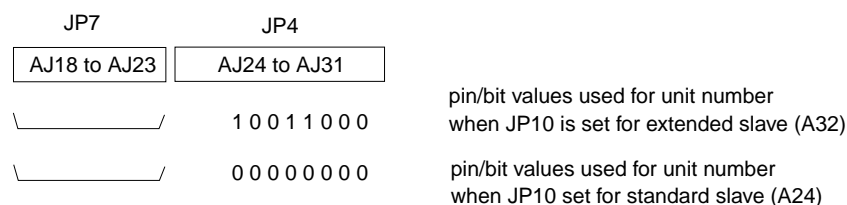
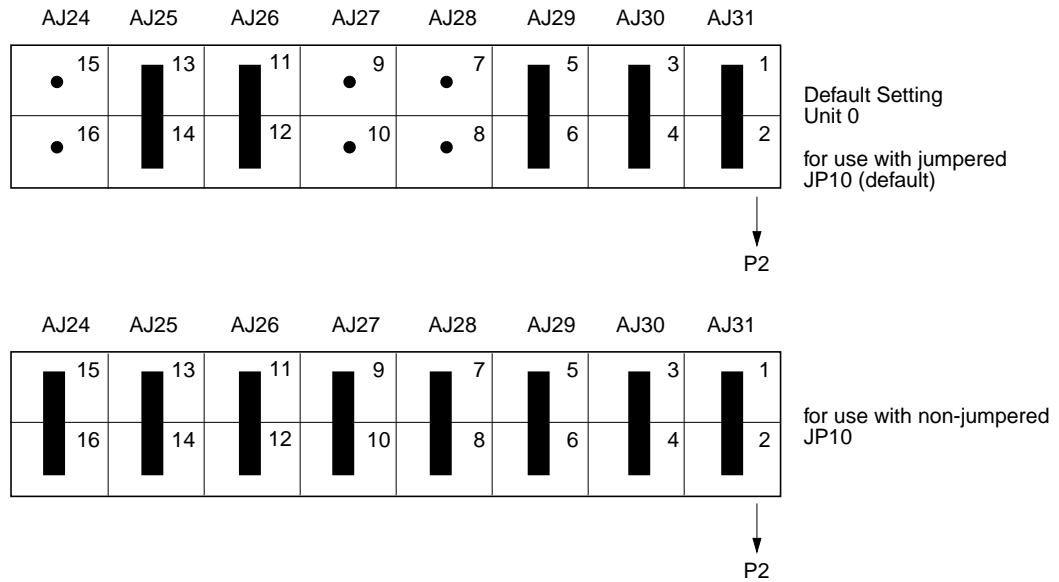
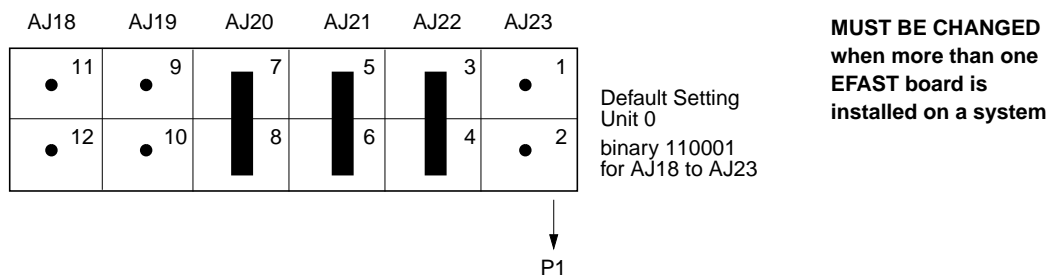

Figure 1-5 Use of JP4 and JP7 in Combination with JP10
Figure 1-6 JP4 on Mother Board: Unit Number for Standard Slave Operation
Figure 1-8 JP7 on Mother Board: Unit Number for Extended Slave Operation
- Figure 1-5** Use of JP4 and JP7 in Combination with JP101-6
- Figure 1-6** JP4 on Mother Board: Unit Number for Standard Slave Operation1-6
Jumper block JP4 (illustrated in Figure 1-6) sets a portion of the EFAST board's unit number. The "unit number" is the VMEbus slave response address. Jumper block JP4 sets bits AJ24 to AJ31 of the VMEbus slave response address; jumper block JP7 sets bits AJ18 to AJ23, as illustrated in Figure 1-5. During VMEbus cycles, jumper bits AJ18-AJ31 (on JP4) are compared with VMEbus address bits A18-A31 to determine if the cycle is within the slave response window. When a jumper is installed between two JP4 pins, the associated address bit is set to 0; when no jumper is installed, the bit is a 1. JP4 is also referred to as the XDEC jumper block.
Note: When JP10 is set for extended slave operation (the default),JP4 must be jumpered with the factory setting. When JP10 is altered for standard slave operation, all pins on JP4 must be jumpered, as illustrated in Figure 1-6.
The Silicon Graphics factory setting (illustrated in Figure 1-6) is for Unit 0 and assumes extended slave operation (the default setting on JP10). Do not change the default setting for JP4 when using extended slave operation. If JP10 is altered (for standard slave operation), jumper all the pins on JP4, as illustrated in Figure 1-6.
Jumper block JP7 (illustrated in Figure 1-8) sets a portion of the EFAST board's unit number. The "unit number" is the VMEbus slave response address. Jumper block JP7 sets bits AJ18 to AJ23 and JP4 sets bits AJ24 to AJ31 of the VMEbus slave response address, as illustrated in Figure 1-5. During VMEbus cycles, jumper bits AJ18-AJ31 (on JP7 and JP4) are compared with VMEbus address bits A18-A31 to determine if the cycle is within the slave response window. When a jumper is installed between two JP7 pins, the associated address bit is set to 0; when no jumper is installed, the bit is a 1. JP7 is also referred to as the ADEC jumper block.
The Silicon Graphics factory setting (illustrated in Figure 1-8) is for Unit 0. When more than one EFAST board is installed on a system, the jumper settings for JP7 must be changed so that each EFAST board has a unique unit number.